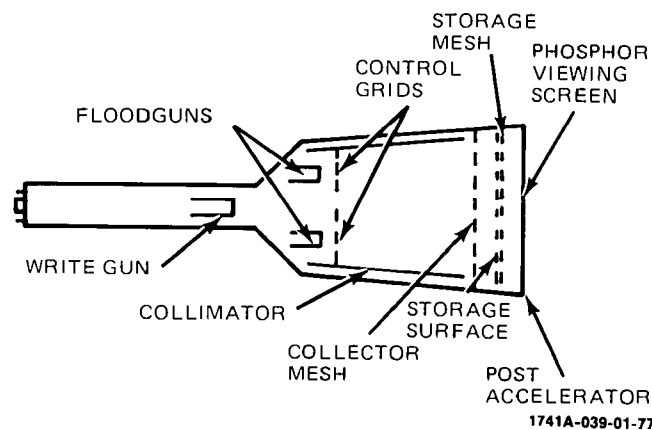

Figure 8-12. Simplified CRT Construction
**8-56. GENERAL STORAGE THEORY.** The storage CRT used in the 1741A contains a conventional electron gun with deflection plates (write gun), an aluminized phosphor viewing screen, a pair of floodguns operated in parallel, flood beam shaping and accelerating grids, a flood beam collimator, a collector mesh, and a storage mesh as shown in figure 8-12.